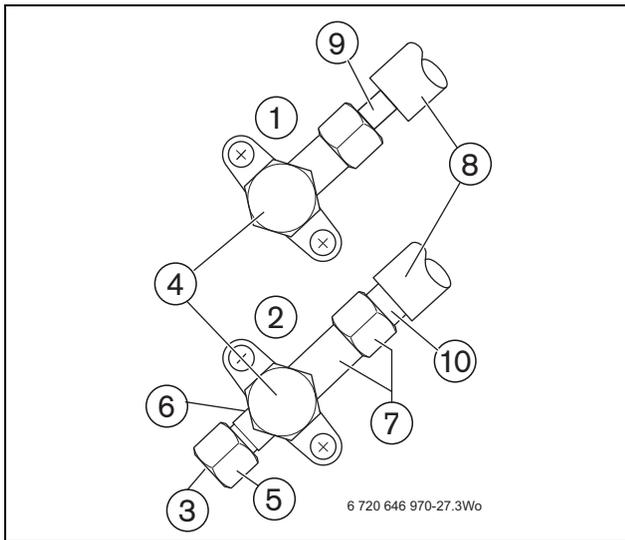

Fig. 32 Shut-off valves, refrigerant circuit
- ▶ Ensure that the shut-off valves on the pipe work for liquid [1] (→ Fig. 32 and page 29). and gaseous refrigerant [2] (→ Fig. 32 and page 29) are closed and do not open them.
- ▶ Connect a high performance vacuum pump to the Schrader valve (→ Fig. 32, [3]).